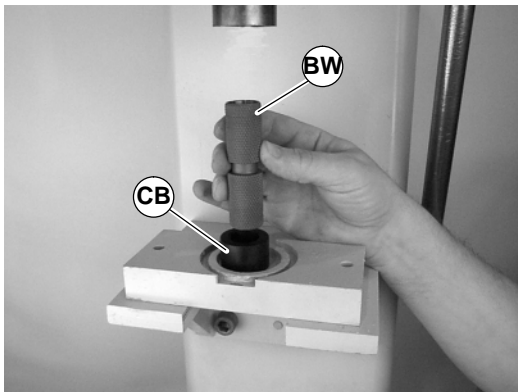

Figure 62
1. Orient bearing anvil/sleeve removal tool (CB of Figure 62)(25-09) with cavity facing up and place pulley (BW) onto tool.